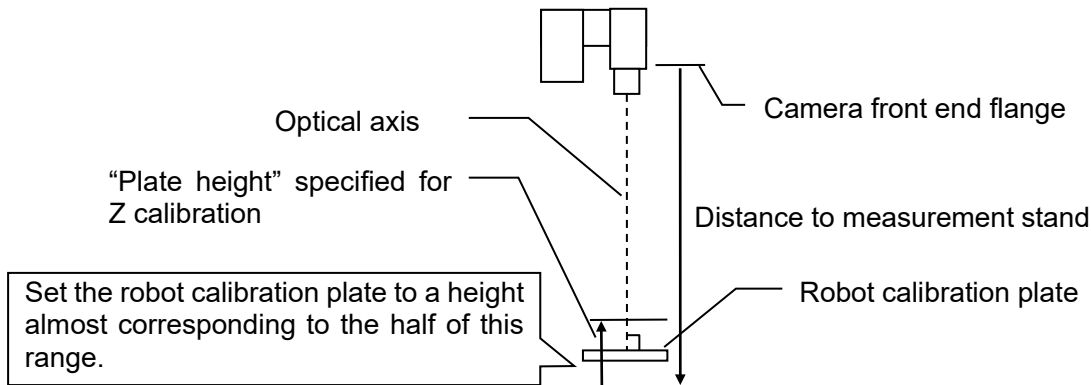

Fig. 7-70 Distance to robot calibration plate
Do not change the height of the camera lens and the robot calibration plate for teaching of the calibration postures (2) to (6) from the height used for the posture (1). For the calibration postures (7) and (8), ensure that the height of the robot calibration plate is kept within the range shown in Fig. 7-70.
- (1) to (5): Move in the XY-axis direction and align with the teaching guide. Do not change the A, B, or C components.
- (6): Rotate 90° on the lens center and align with the teaching guide.
- (7), (8): After moving to (5), move the A-axis ±20°, and then move the XY-axis to align it with the teaching guide.
- For teaching of the calibration postures (2) to (6), do not change the height of the camera lens and robot calibration plate for the position taught at the posture (1). For the calibration postures (7) and (8), ensure that the height of the robot calibration plate is kept within the range shown in Fig. 7-70.
- When teaching the calibration postures (2) to (8), it is easy to align the calibration jig with the teaching guide by jog operation after moving to the position of the taught calibration posture (1).
- With the calibration postures (7) and (8), tilt the robot by approximately 20° if there is sufficient space within the movement range. Tilt by approximately 15°, however, the robot movement range is insufficient.
| 2 | When teaching the calibration posture, is the robot calibration plate at the range position shown in Fig. 7-70? Fig. 7-70 ? | Jog the robot to the range position shown in Fig. 7-70. |